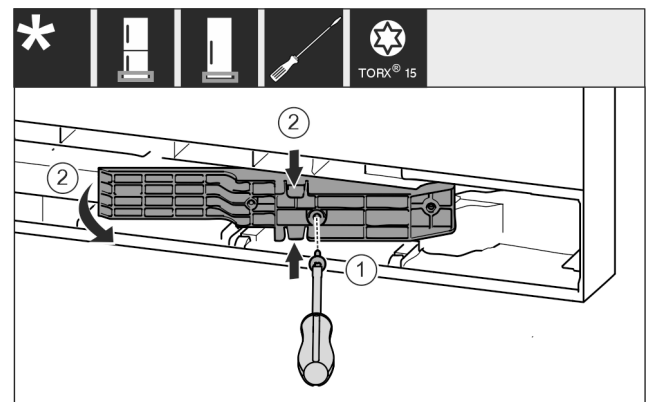

Fig. 16 \*
- ▶ Loosen the screws with a T15 screwdriver. Fig. 16 (1)\*
- ▶ Pull out the adapter. Fig. 16 (2)\*